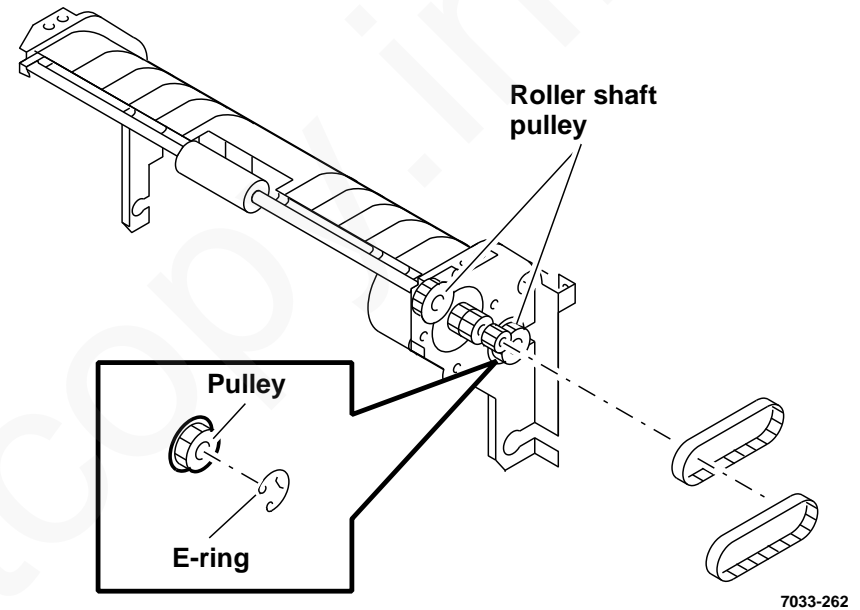

Figure 13. Pulley removal
- a. Remove belts from printer motor assembly pulley (Figure 13).